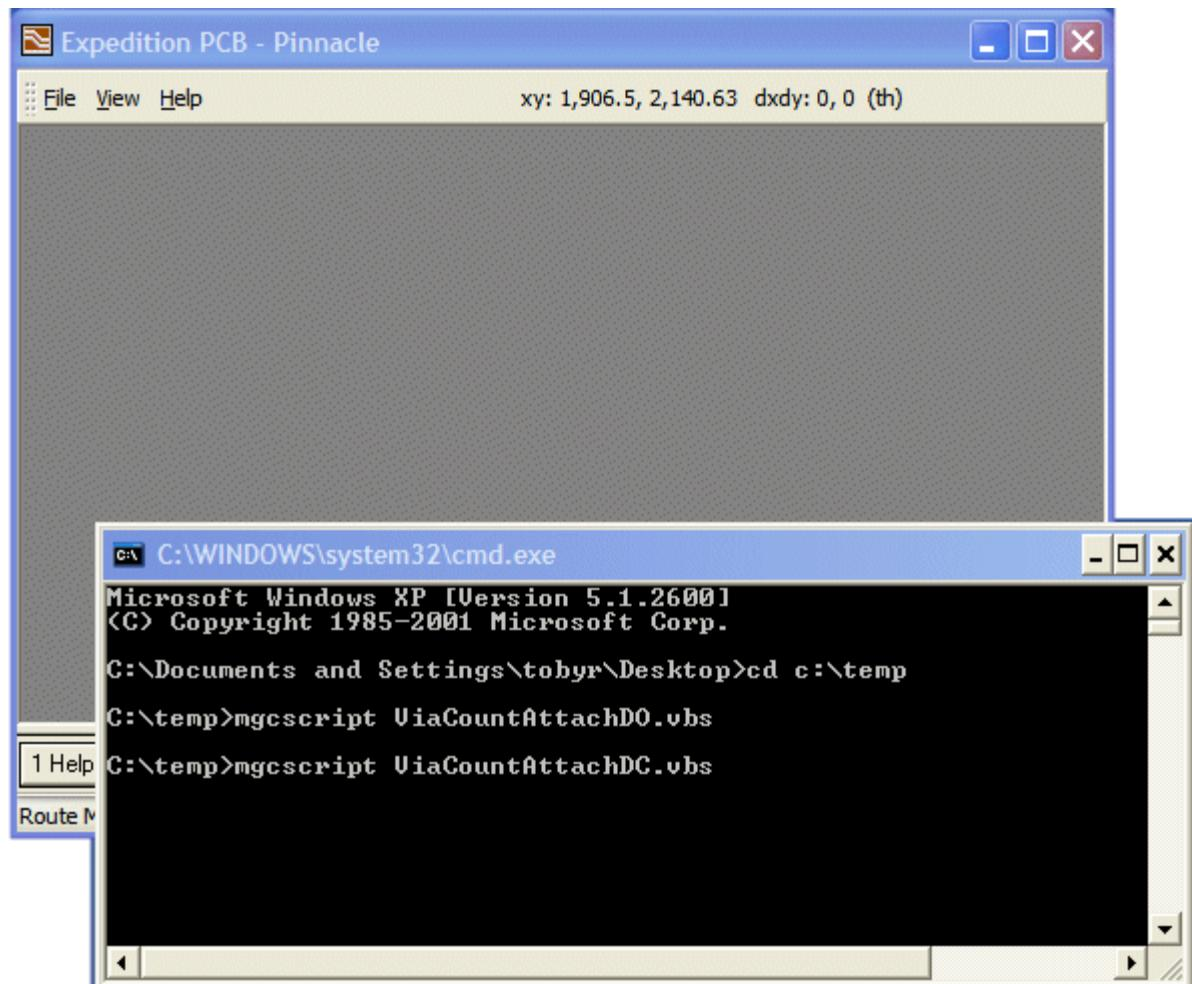

Figure 8-26. Preparing to run the script.
- 3) Open a Console/Terminal window, set the context to *C:\Temp*, and prepare to run your *ViaCountAttachDC.vbs* script as shown in Figure 8-26 (don't actually run it yet, just prepare yourself for the excitement to come).